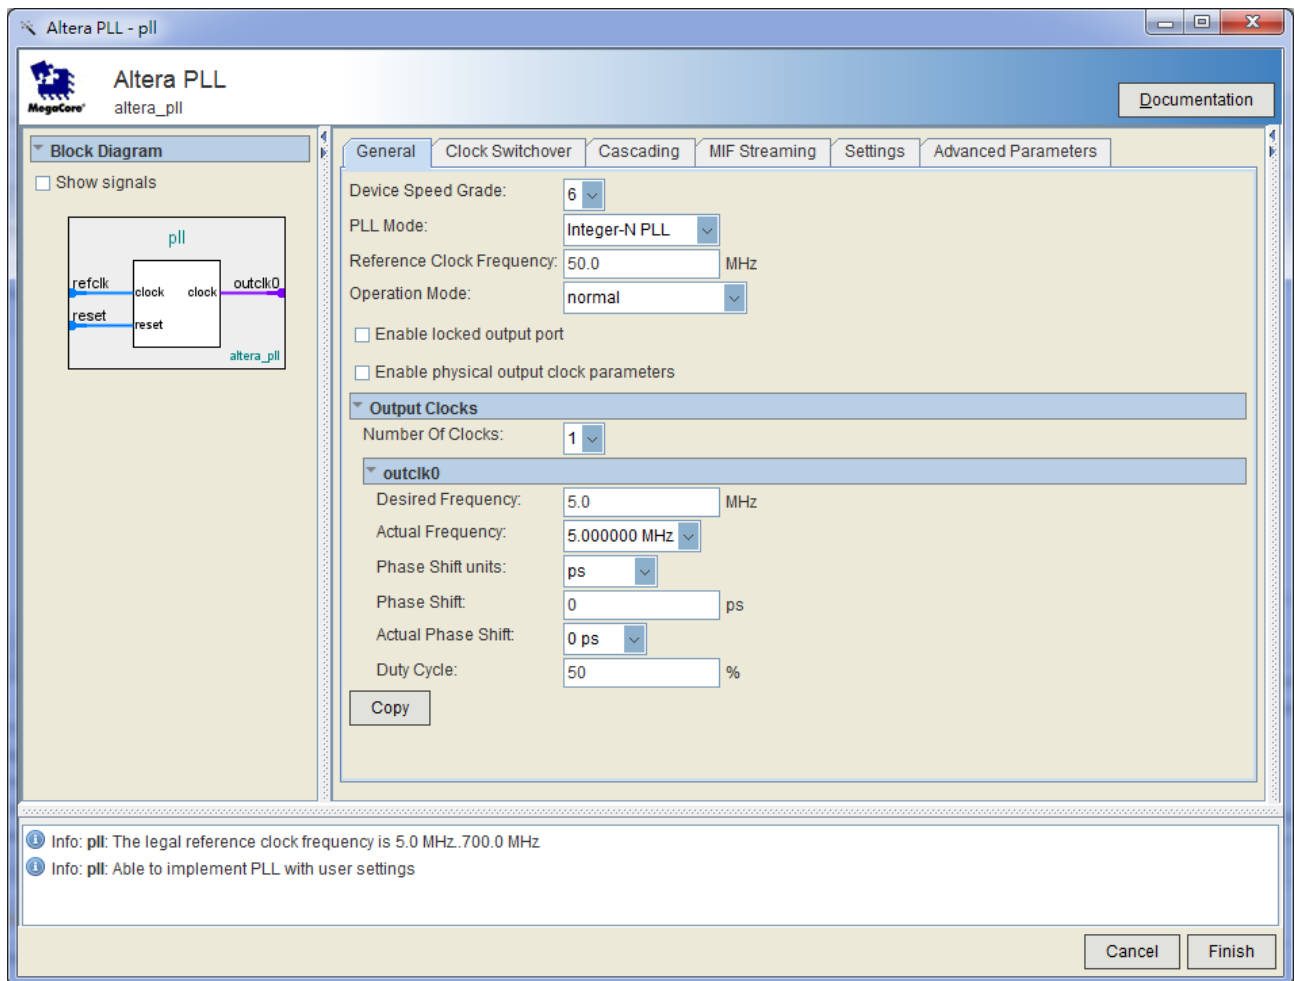

Figure 3-12 Selections of Altera PLL windows
7. Then, make the following selection (see Figure 3-12).